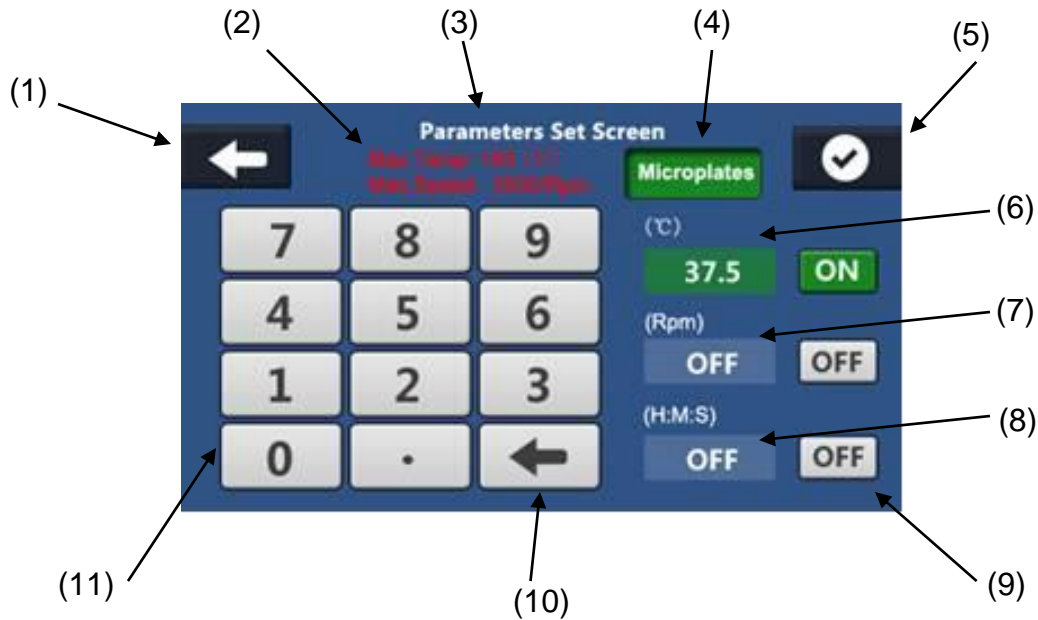

Figure 5
4.4 Parameter Set Screen (Figure 5) – The parameter set screen is access by pressing the time, temperature or RPM’s on the home screen. It can also be accessed in the table view when changing parameters. This screen is used to modify parameters. Parameters cannot be modified without a passcode when the parameter lock is enabled.